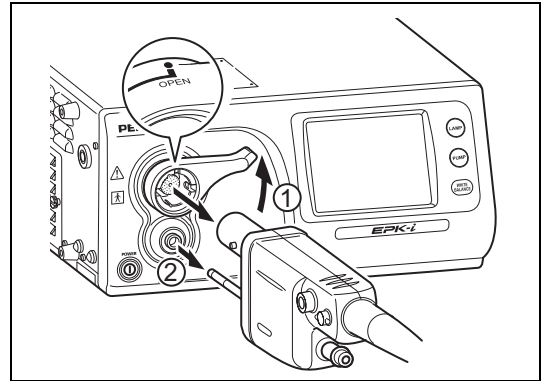

Figure 5.1
- 3** Remove the scope from the processor. (Refer to Figure 5.1.)